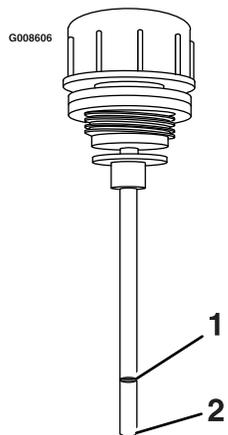

Figure 22
- B. Remove the cap again and check the level of the oil on the dipstick. See Figure 22 for oil levels.